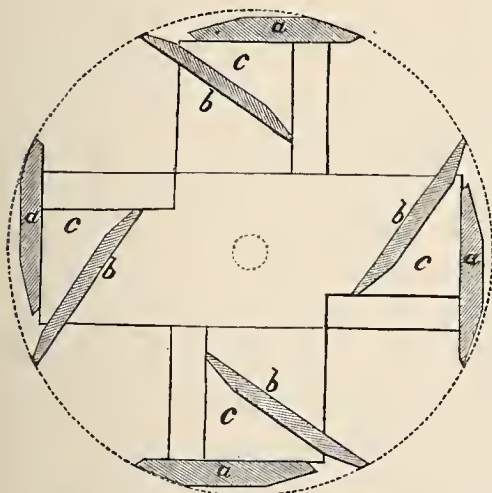

Fig. 461.—Robbins Patent Churn-Dash.
*The Robbins Patent Centripetal and Centrifugal Dash for Thermometer Churns,* represented by Fig. 461, is